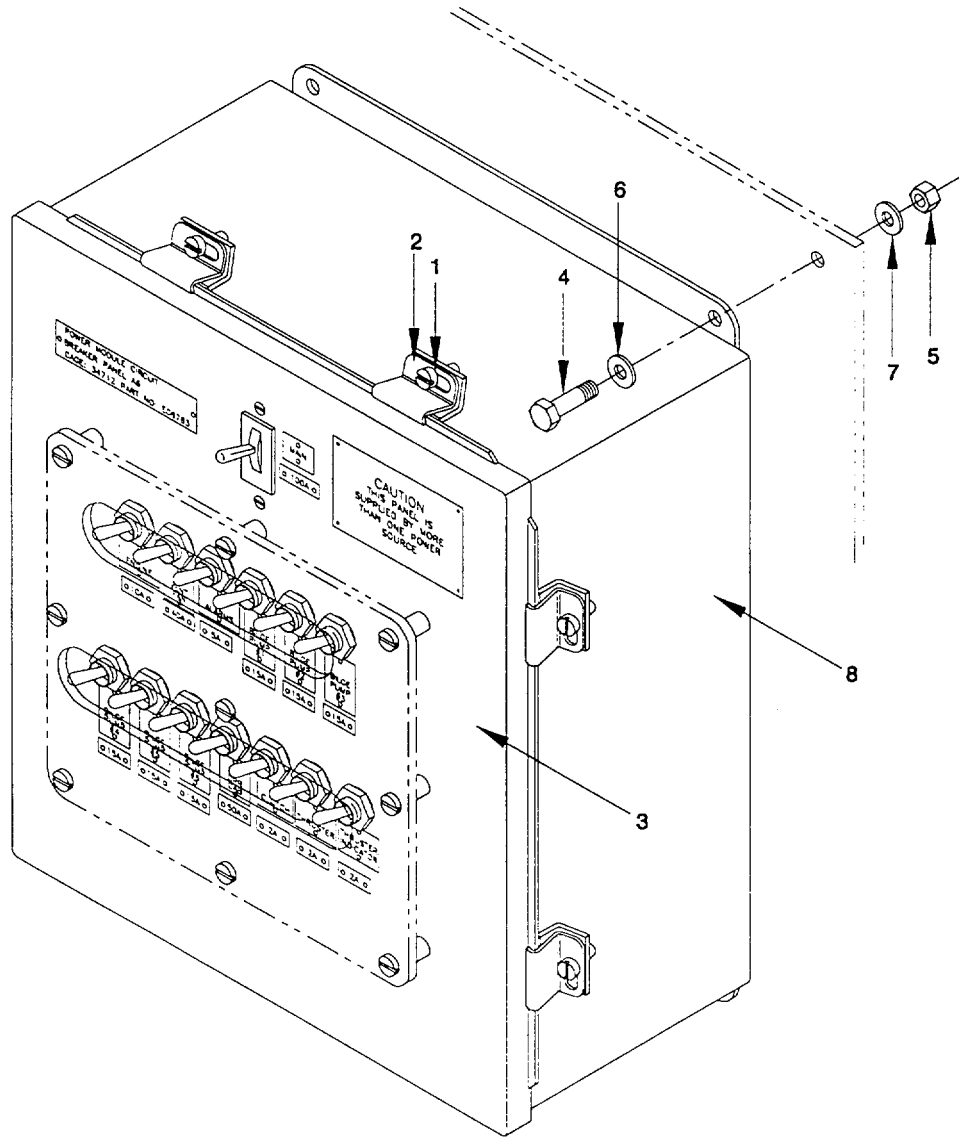

Figure 2-62. Propulsion Module Circuit Breaker Panel "A6", Remove/install
a. *Remove.* (figure 2-62)
- (1) Remove six screws (1) and six clamps (2) securing cover (3) to enclosure (8). Swing cover (3) open.
- (2) Disconnect and tag electrical wiring to circuit breaker panel. Refer to Appendix G.
- (3) Remove four hex head capscrews (4), four hex nuts (5), four flat washers (6) and four lock washers (7) securing enclosure (8). Remove circuit breaker panel.
- (1) Visually inspect all circuit breaker panel components for corrosion, damage or frayed or broken electrical wiring.
- (2) Check that door moves freely and that all switches cycle from "on" to "off". Tighten any loose components.
c. *Install.* (figure 2-62)
- (1) Apply sealing compound to capscrews (4) and screws (1).
- (2) Position new circuit breaker panel and secure with four hex head capscrews (4), four flat washers (6), four lock washers (7) and four hex nuts (5).
- (3) Reconnect electrical wiring, as tagged, to circuit breaker panel. Refer to Appendix G. Use tie wraps and mounting bases to secure any loose wires.
- (4) Close cover (3) and secure with six clamps (2) and six screws (1).